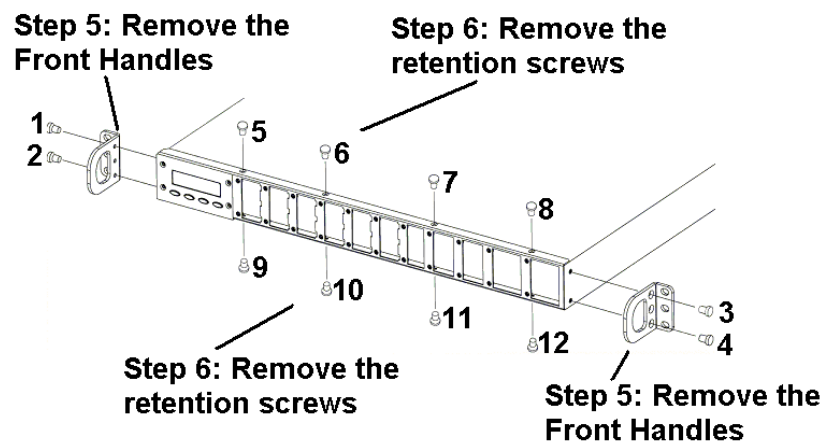

Figure 6-4: Remove the Front Panel Retention Screws
- Step 5. Remove the Handles** - If the handles are located at the front of the Chassis, they must be removed. The handles are connected to the sides of the chassis with two screws. These screws (labeled **1** to **4** in *Figure 6-4*) must be removed. Once they are removed the handles will come off. (See *Step 5* in *Figure 6-4* below)
- Step 6. Remove the retention screws** - The front panel is attached to the chassis with 8 screws; four on the top surface and four on the bottom surface. Locate these eight screws (labeled **5** to **12** in *Figure 6-4*) and remove them. (See *Step 6* in *Figure 6-4* below)